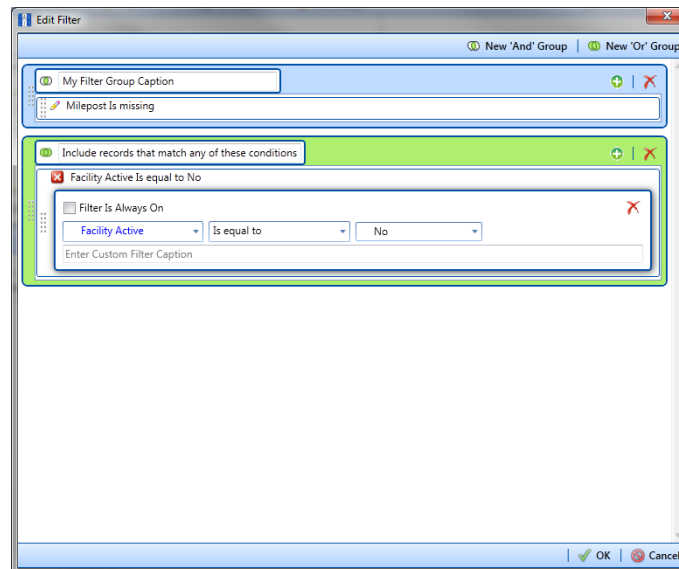

Figure 9-23. New 'Or' Filter Group
- Click  **New 'Or' Group** to open a filter properties group box (Figure 9-23, page 409).